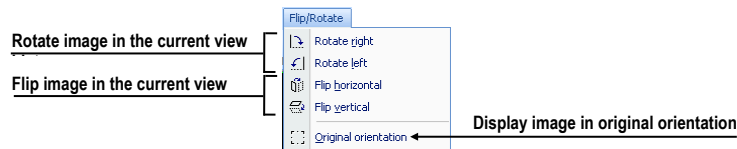

Figure 38 – Flip/ Rotate menu
- **Flip/Rotate** – flipping and rotation of the image in the current view (see Figure 38).